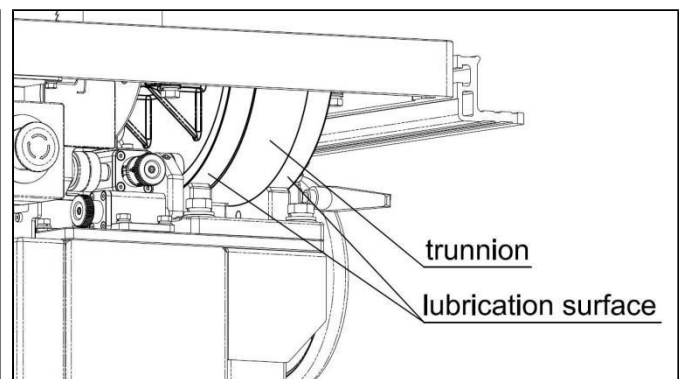

Fig. 14-2
- As shown in Fig. 14-2, regularly clean the trunnion and apply grease to its lubrication surface.